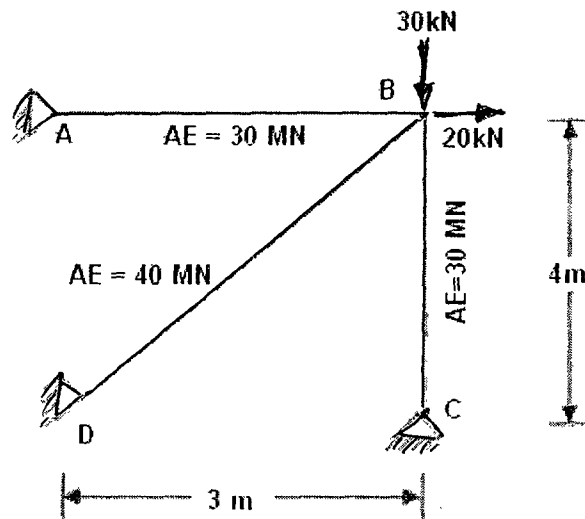

Fig. 15a
15. a) Analyze the truss shown in Fig.15a using stiffness method and find the member forces. The axial rigidity of the members in MN are shown in the figure.